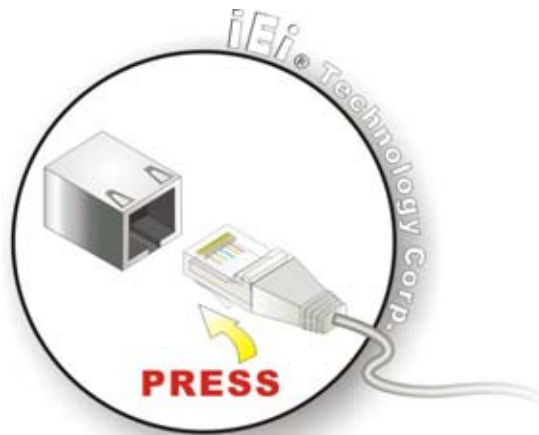

Figure 2-8: LAN Connection
Step 2: Align the connectors. Align the RJ-45 connector on the LAN cable with one of the RJ-45 connectors on the bottom panel of the AFL-W19A/W19B/17D/W15A-N270. See Figure 2-8..